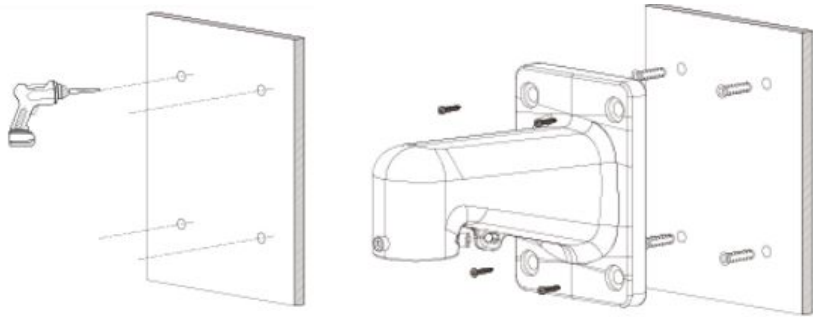

Figure 2-1
Step 1 Prepare the mounting surface by marking and then drilling out the mounting holes as well as a cable exit hole, if necessary. Install the Arm mount to the mounting surface. See figure 2-1.